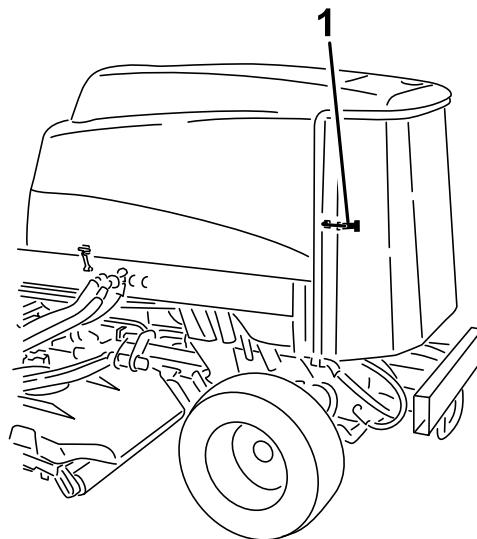

Figure 71
2. Unlatch and swing open the rear screen (Figure 71).